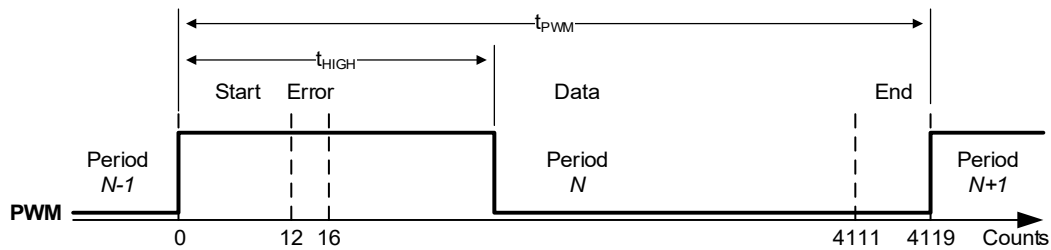
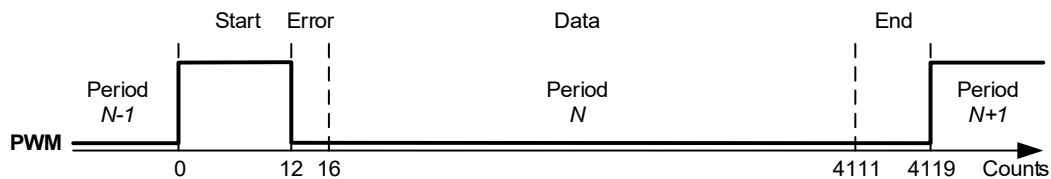

Figure 60: PWM Output, Normal Operation
Figure 61: PWM Output when PWMM = 1 and a Fault Condition is Detected
- Error, the signal is held high in normal operation (Figure 60). It is held low if PWMM
= 1 and an fault condition is detected (Figure 61).
- Data, in normal operation, the signal is held high for a number of counts proportional to the measured angle, then it is driven low (Figure 60). The signal is kept low if PWMM = 1 and an fault condition is detected (Figure 61).
1. Measure the PMW period t_{PWM} and the pulse width t_{HIGH} (Figure 60)